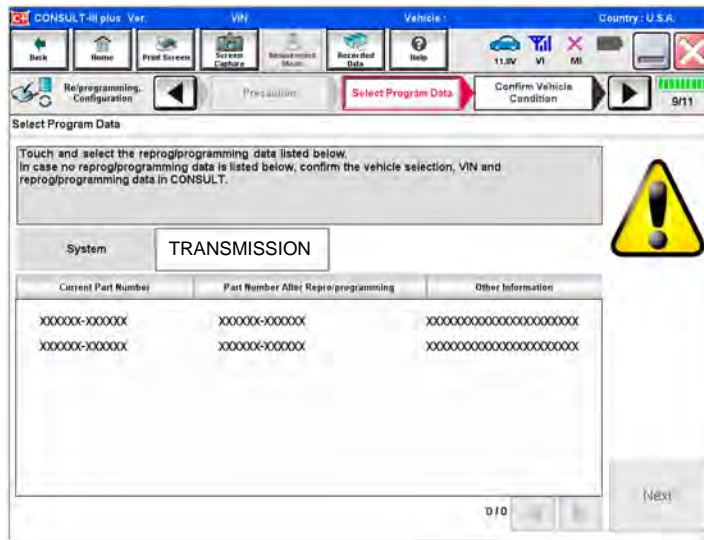

Figure 169
- If more than one new P/N is available, the screen in Figure 169 displays.